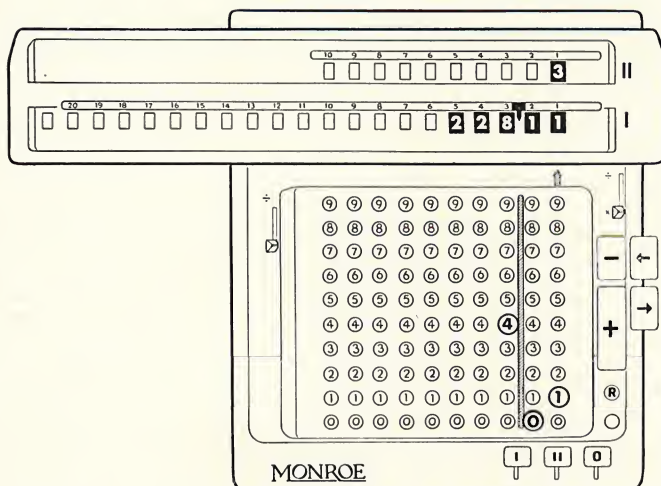

Figure 16
Step 3—Continue in the same way for the other extensions, in each case clearing only the upper dials. After completing the last extension the lower dials show 228.11, checking the total of the invoice. Figure 16.